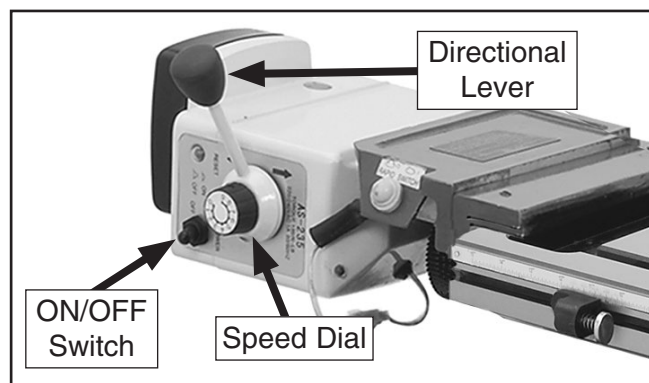

Figure 29. X-axis power feed controls.
3. Move power feed directional lever (see **Figure 29**) to center or neutral position. This will prevent table movement when unit is connected to power.